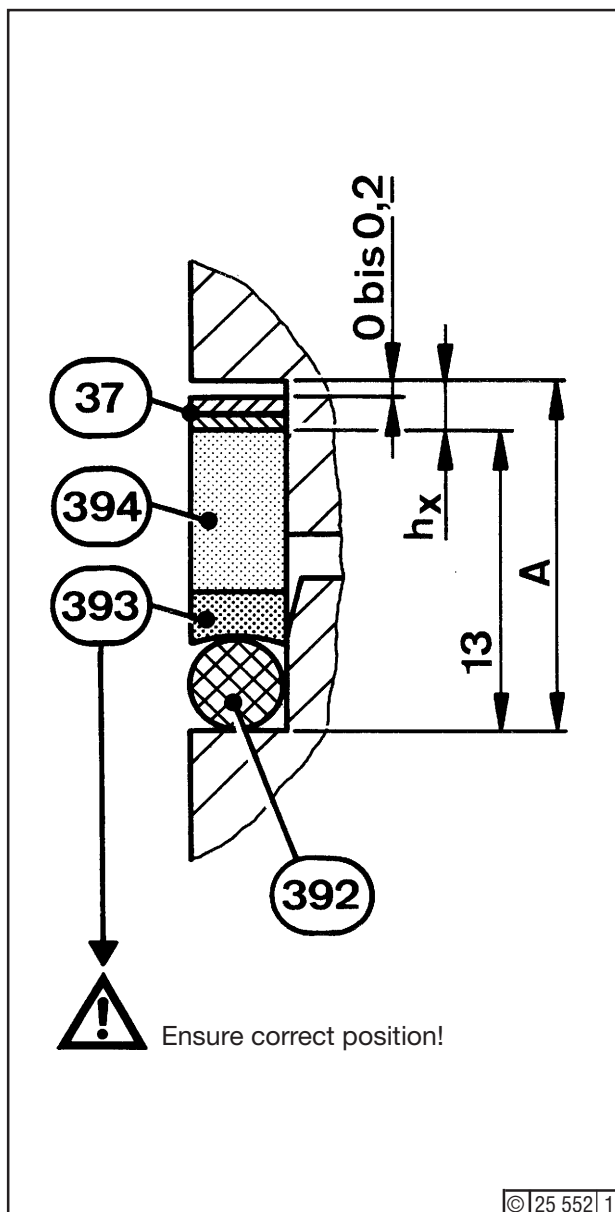

Fig. 2
Install element (Job Card 07.02.01). Insert seal components as per Fig. 2. Make sure that the groove of supporting ring (393) is positioned on O-seal (392). Apply Parker-O-Lube on all components of the element seal pack to facilitate installation.